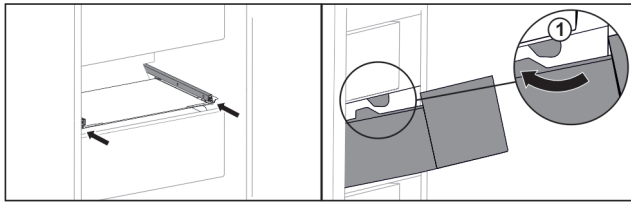

Fig. 50
- ▶ Guide drawer around the stoppers Fig. 50 (1).